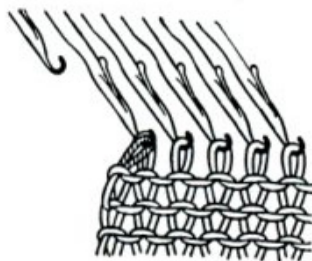

Fig. 63
- a. Use single needle transfer tool, transfer the end stitch to the 2nd needle. (See Fig. 63) and place empty needle out of action (Position A)